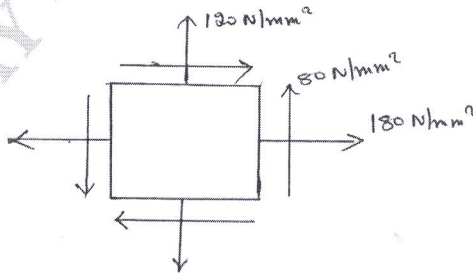

Fig. Q3 (b)
- b. The state of stress at a point in a strained material is shown in Fig. Q3 (b). Determine (i) The direction of the principal planes. (ii) Magnitude of principal stresses and (iii) The magnitude of maximum shear stress and its direction. Indicating all the above planes by sketch. (08 Marks)